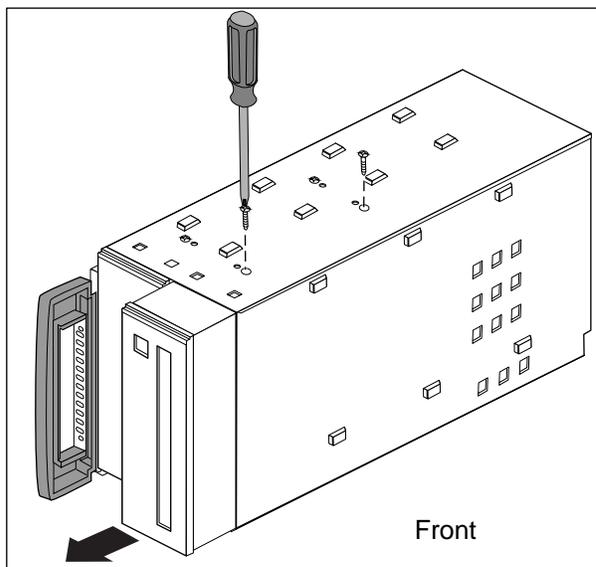

Figure 7-9 Removing A Drive From the Peripheral Carrier
4. Remove the screws that hold the drive to the peripheral carrier and remove the drive from the carrier, as shown in Figure 7-9.